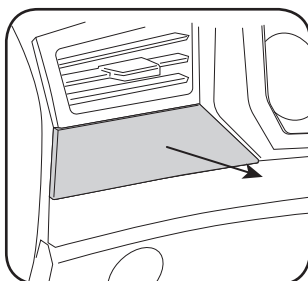

Fig. 1.1
1. Using a panel tool, carefully pry outward on the small trim panel left of the steering wheel. (Fig. 1.1)